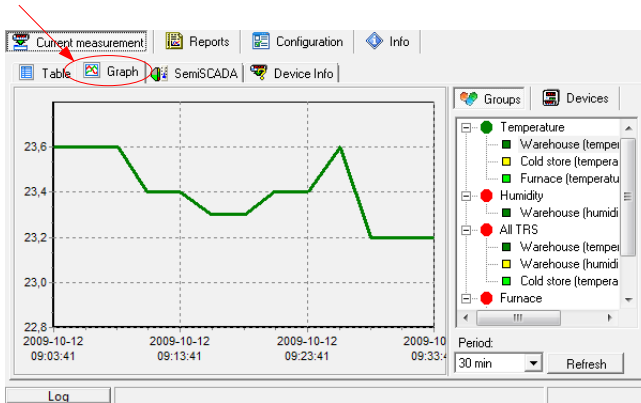

Figure 4.4. *Current measurement - Graph tab*
Graph tab (Figure 4.4) is used for viewing the measurement results (temperature, humidity) in the form of a graph. Measurements from a maximum of 12 units (transducers, sensors) may be viewed simultaneously.
- **graphs area** - plots measured values (e.g. temperature, humidity) in function of time. Each sensor is distinguished by a different colour (**Figure 4.4**);